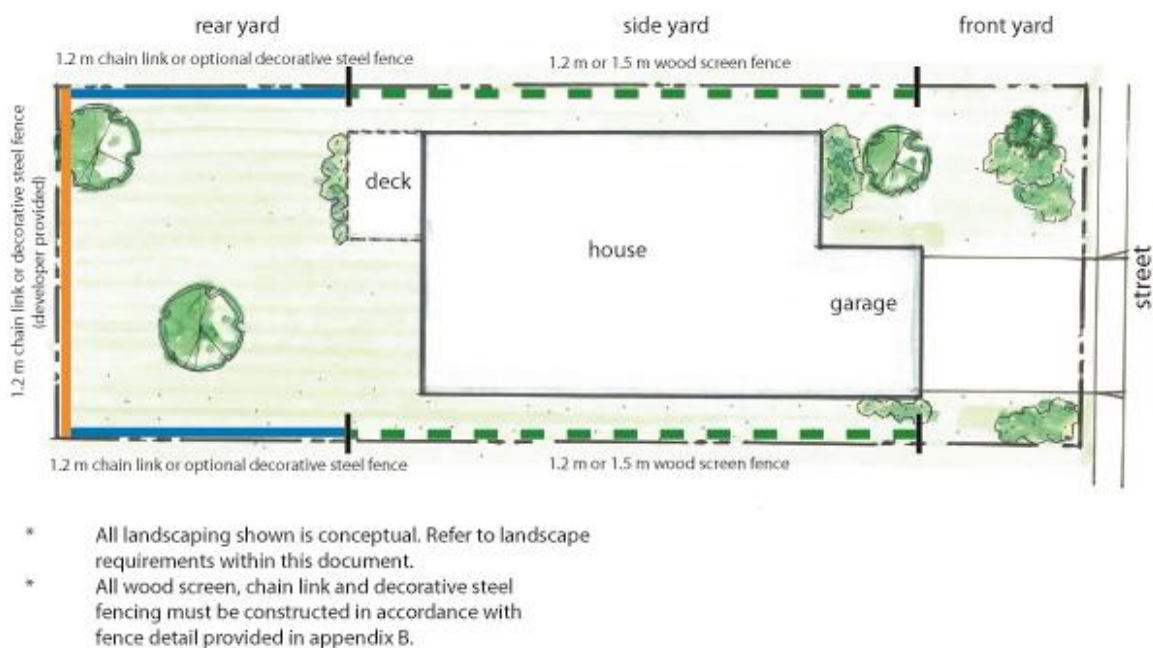

Figure 3: Fencing Plan – Stormwater Management Facility, Jubilee Park, and Neighbourhood Parks and Walkway Lots
- 11.3.4 Fencing for all lots backing onto the stormwater management facility, Jubilee Park, neighbourhood open spaces and major walkways shall be designed as shown in **Figure 3: Fencing Plan – Stormwater Management Facility, Jubilee Park, and Neighbourhood Parks and Walkway Lots**. On the side property line, 1.2 m or 1.5 m wood screen fencing is required along the length of the house